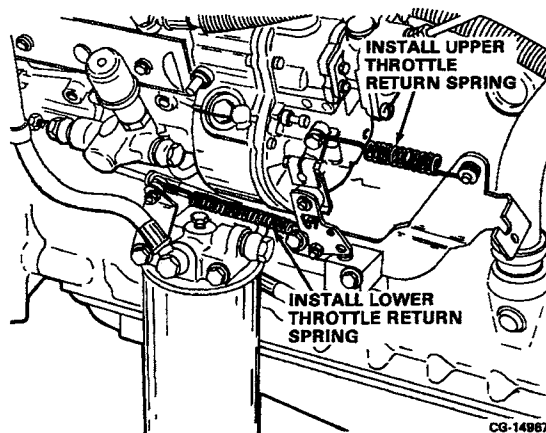

Figure 11.50. Install the Throttle Return Springs
14. Connect the throttle return springs as shown in Figure 11.50.